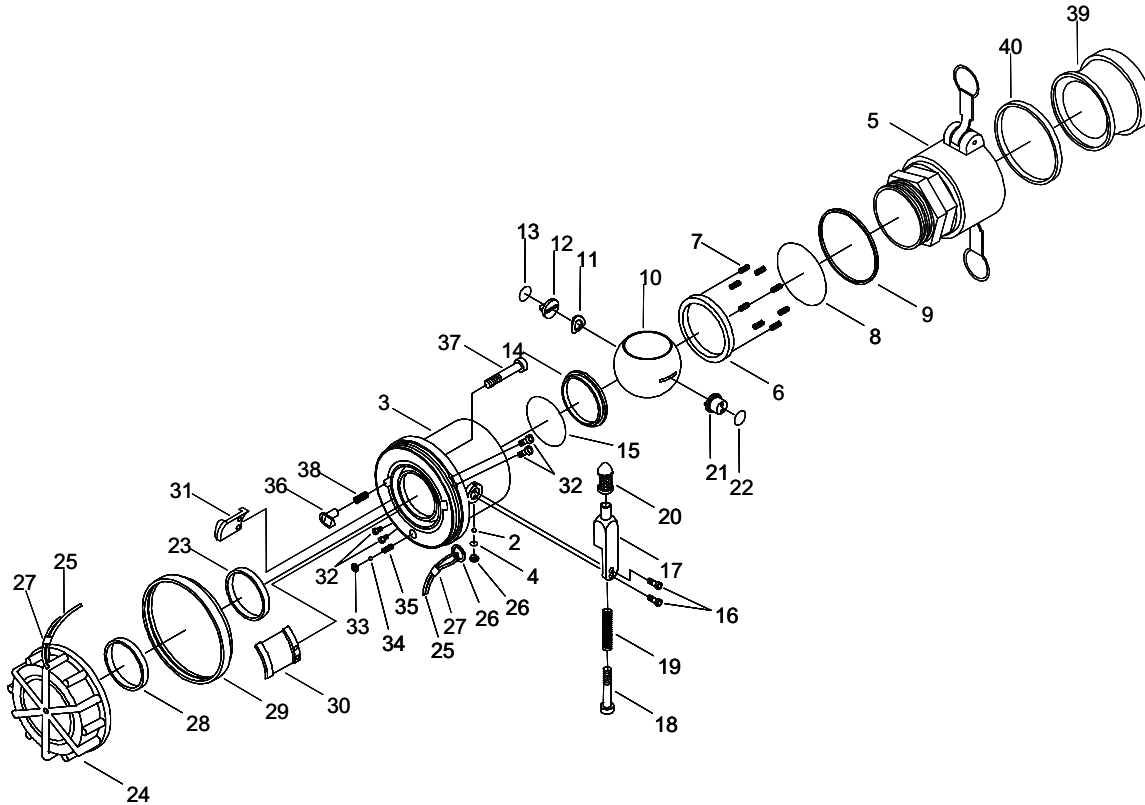

Figure 1. 2 In. Female Quick Disconnect x 2 In. Valved Dry-Break Adapter Assembly.
Screw (Figure 1, Item 1) is a self-locking screw and is designed to be reused up to 15 times before replacement. If a torque wrench is not used to remove screw (Figure 1, Item 1), then screw (Figure 1, Item 1) should be replaced.
1. Using a torque wrench and screwdriver bit, check running torque of screw (Figure 1, Item 1). If running torque is less than 3.5 in. lb (0.45 N-m), discard screw (Figure 1, Item 1).
Keep inlet hole in the up position when removing screw (Figure 1, Item 1) to prevent loss of ball bearings (Figure 1, Item 2) inside coupling (Figure 1, Item 3).
2. Remove screw (Figure 1, Item 1) from coupling (Figure 1, Item 3).
3. Remove o-ring (Figure 1, Item 4) from screw (Figure 1, Item 1).
4. Discard o-ring (Figure 1, Item 4).
Ensure all 41 ball bearings (Figure 1, Item 2) are accounted for during disassembly.
5. Hold coupling with screw hole toward cleaning cloth and rotate inlet fitting to allow ball bearings (Figure 1, Item 2) to fall onto the cleaning cloth.
6. Remove inlet adapter (Figure 1, Item 5) from coupling (Figure 1, Item 3).
7. Remove seal (Figure 1, Item 6) from inlet adapter (Figure 1, Item 5). Discard seal (Figure 1, Item 6).
8. Remove eight springs (Figure 1, Item 7) from inlet adapter (Figure 1, Item 5).
9. Remove o-ring (Figure 1, Item 8) from inside groove of inlet adapter (Figure 1, Item 5).
10. Discard o-ring (Figure 1, Item 8).
11. Remove o-ring (Figure 1, Item 9) from outer groove of inlet adapter (Figure 1, Item 5).
12. Discard o-ring (Figure 1, Item 9).
13. Rotate ball valve (Figure 1, Item 10) to the closed position and remove from inside coupling (Figure 1, Item 3).
14. Remove spring washer (Figure 1, Item 11), stop pin (Figure 1, Item 12) and o-ring (Figure 1, Item 13) from inside coupling (Figure 1, Item 3).
15. Discard o-ring (Figure 1, Item 13).
16. Remove seal (Figure 1, Item 14) from coupling (Figure 1, Item 3).
17. Discard seal (Figure 1, Item 14).
18. Remove o-ring (Figure 1, Item 15) from coupling (Figure 1, Item 3).
19. Discard o-ring (Figure 1, Item 15).
20. Remove screws (Figure 1, Item 16) from control arm (Figure 1, Item 17).
21. Remove control arm (Figure 1, Item 17) from coupling (Figure 1, Item 3).
If it is necessary to disassemble control arm (Figure 1, Item 17), perform the following steps:
- a. Remove screw (Figure 1, Item 18) from control arm (Figure 1, Item 17).
- b. Remove spring (Figure 1, Item 19) from control arm (Figure 1, Item 17).
- c. Remove knob (Figure 1, Item 20) from control arm (Figure 1, Item 17).
22. Remove control arm shaft (Figure 1, Item 21) and o-ring (Figure 1, Item 22) from inside coupling (Figure 1, Item 3).
23. Discard o-ring (Figure 1, Item 22).